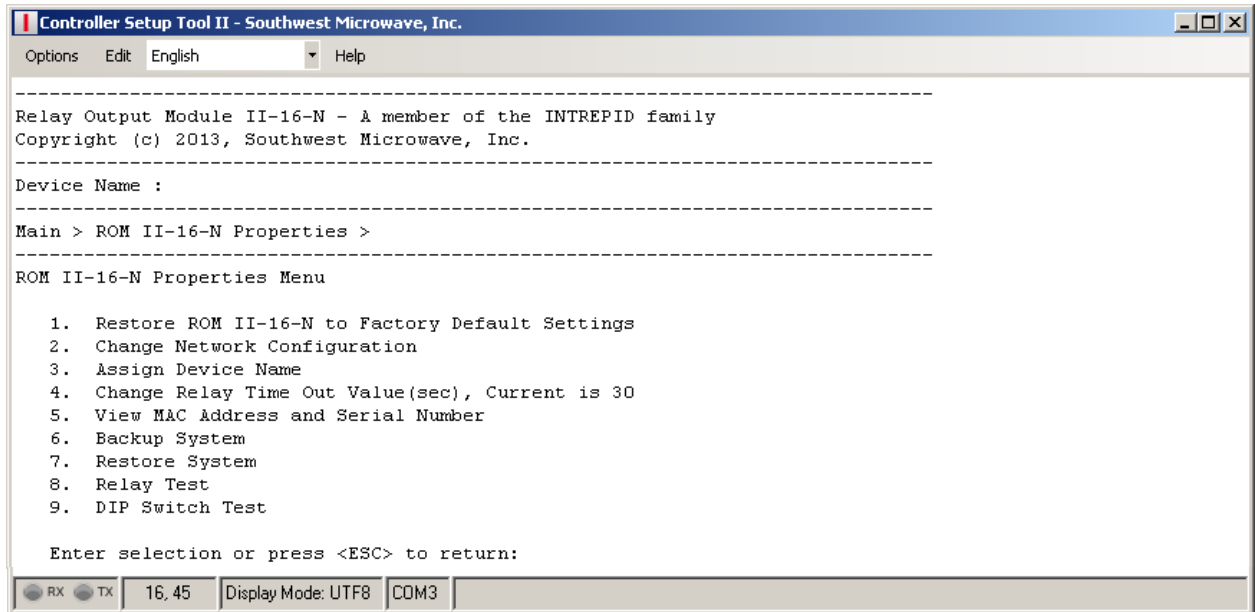

Figure 10 – ROM II-16-N Properties Menu
Selecting “1” from the Main Menu will open the “ROM II-16-N Properties” menu as shown in Figure 10. There will be seven (7) command selections available.